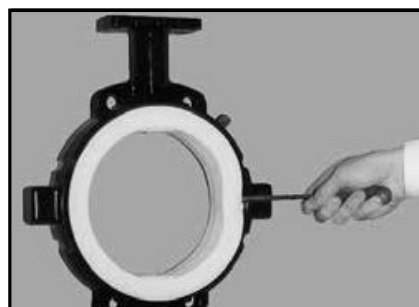

Fig. 2
6. Once the instrument makes contact with the inside edge of the housing (B), angle the tool to get below the housing lip (see Fig. 2).